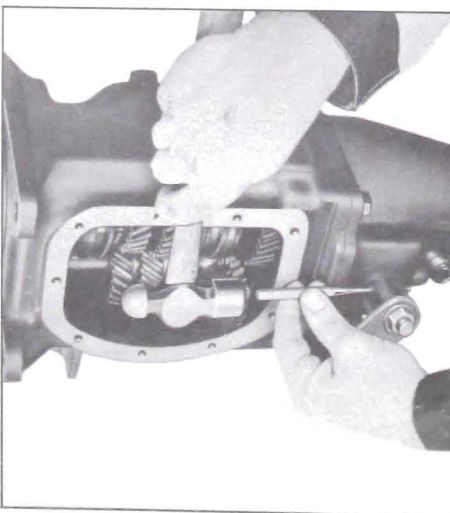

Figure 4-54—Removing Reverse Shifter Shaft Lock Pin
4. Drive lock pin up from reverse shifter lever boss, as shown in Figure 4-54, and pull shifter shaft out about 1/8". This disengages the reverse shift fork from reverse gear.